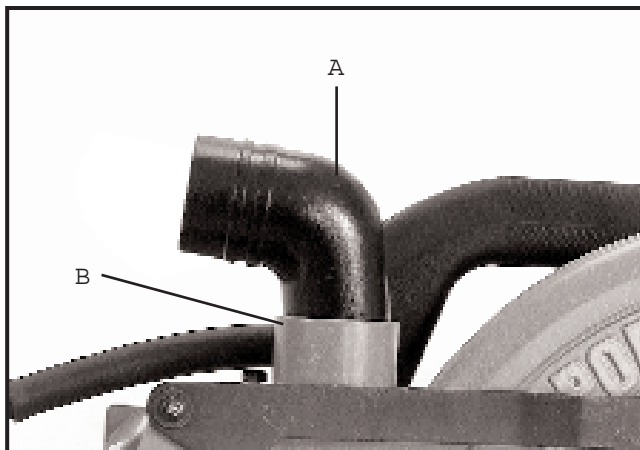

Fig. 10
1. Insert smooth end of dust elbow (A) Fig. 10, into opening (B). The dust elbow (A) can be rotated as desired.